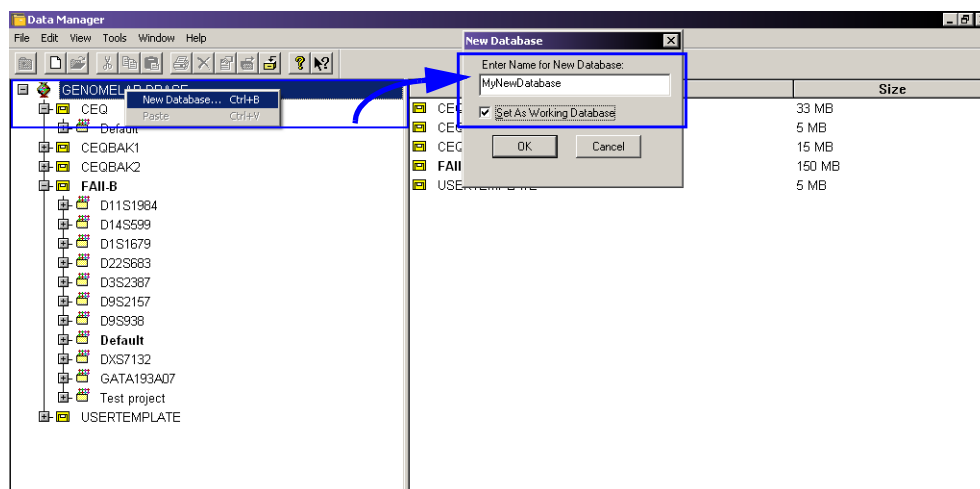

Figure 8.3 Setting Up New Working Database in the Data Manager Module
3. Enter a name for the database and (if desired) select the **Set As Working Database** option (Figure 8.3).